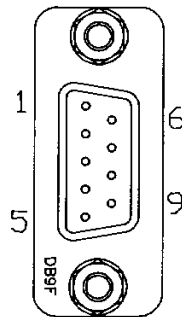

Figure 2-1 J5 Alarm Connector
2. Connect POWER IN (+27 Vdc) to the subrack. Refer to Figure 2-1 for pin locations and Table 2-2 for pin designations.
The Alarm Interface connector on the front panel of the MCR20930-1-2 Booster Amplifier Subrack is a 9-pin female D-sub connector that permits serial interface with the external alarm monitor. Refer to Figure 2-1 and Table 2-3 for connector definition.